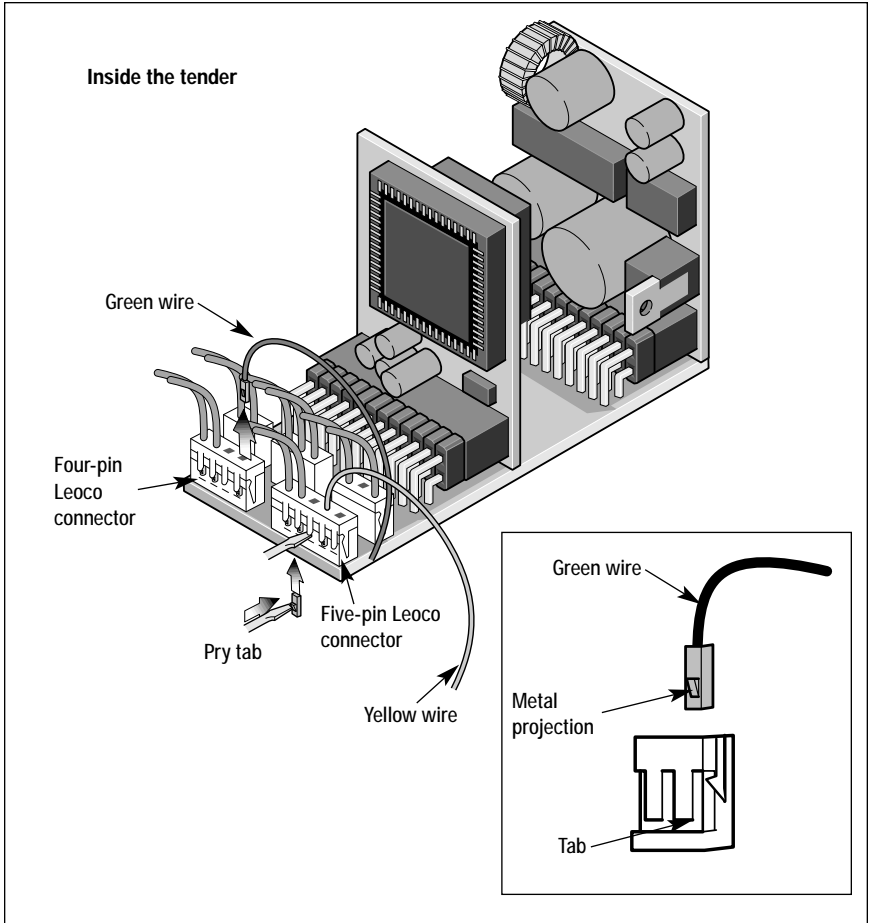

Figure 7. Leaco connector
10. If you are upgrading to the RailSounds sound system only (and you are NOT upgrading to Command Control), install the green wire into the fourth position on the five-pin Leoco connector, which was previously held by the yellow wire. Refer to Figure 7.
11. If you are upgrading to both RailSounds and Command Control, the green wire must be installed in the fourth position of the four-pin Leoco connector. Refer to Figure 7.